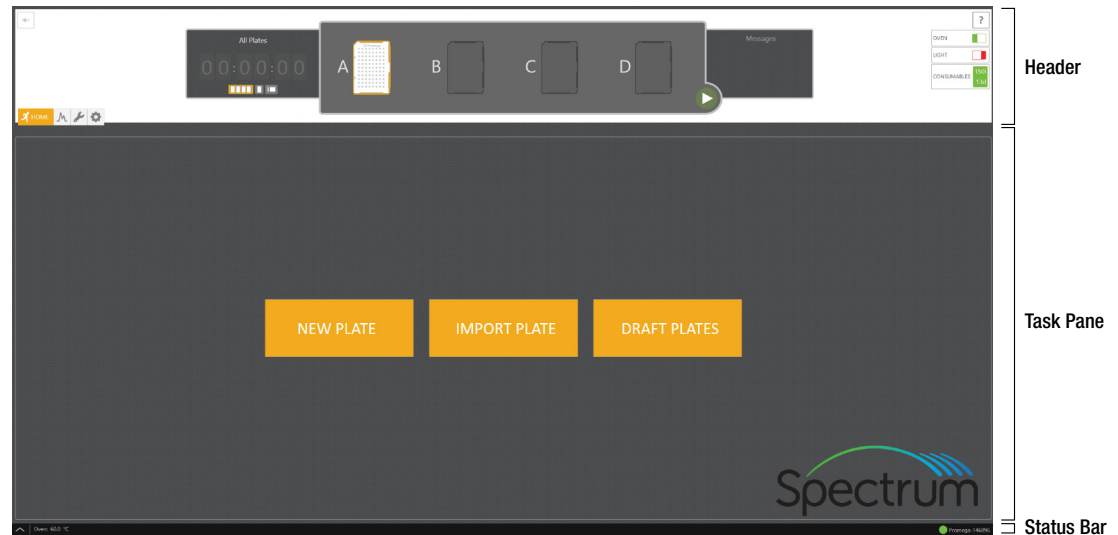
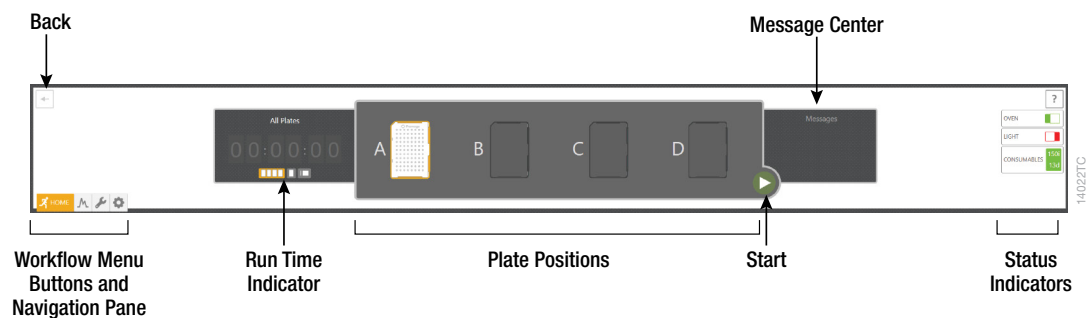
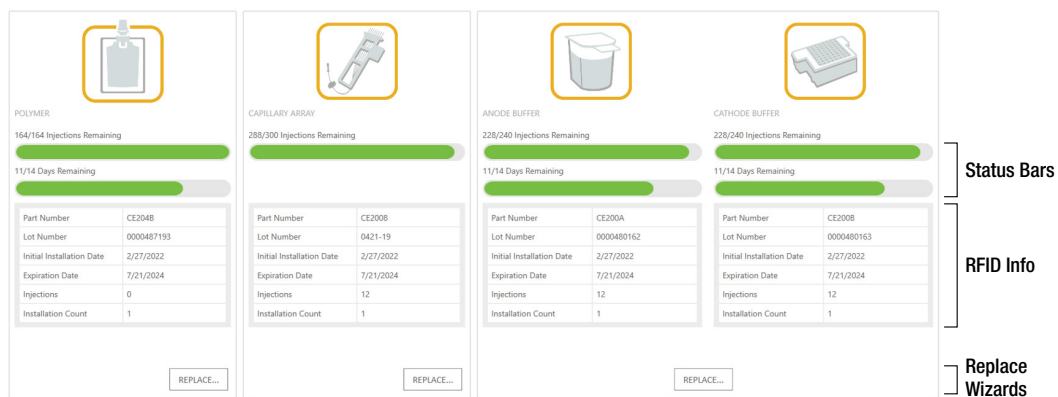

Figure 7. Spectrum Control Software 'Home' screen.
Figure 8. Header.
Figure 9. 'Consumables' screen.
Open the Spectrum Control Software (SCS). The 'Home' screen appears upon launch (Figure 7), providing access to four workflow menus (Home, Review Plates, Maintenance and Settings; see Figure 8) and status indicators. The screen is divided into three sections: Header, Task Pane and Status Bar.
The Header (Figure 8) is fixed and remains available to the user throughout all navigation processes. This area contains Status Indicators, Message Center, Start Button, Run Time Indicator and Workflow Menu. The Header also shows the status of the plate positions within the Plate Drawer.
Before starting a run, ensure all consumables are installed and in sufficient supply. For best results, use unexpired reagents that are within the recommended use range. Refer to the 'Consumables' screen (Figure 9) to determine if any consumables need to be replaced. To access the 'Consumables' screen, select the Consumables status indicator in the Header on the SCS screen (Figure 8). The 'Consumables' screen (Figure 9) displays information for the four RFID-tagged consumables on the instrument: Polymer, Capillary Array and Anode and Cathode Buffers.
Select **Oven Heater Indicator** in the Header (Figure 8) to start preheating the oven to 60°C. The oven temperature will be displayed in the status bar at the bottom of the screen and the indicator will change from red to green when the oven preheating is complete.
On the 'Home' screen, there are three options displayed for plate setup: New Plate, Import Plate and Draft Plates (Figure 7).
3. Confirm the drawer handle light is illuminated, indicating that the drawer is unlocked and ready for plate loading. Alternatively, check the Message Center to verify that the drawer is unlocked. The Drawer Status indicator is in the Message Center located in the Header (Figure 8).